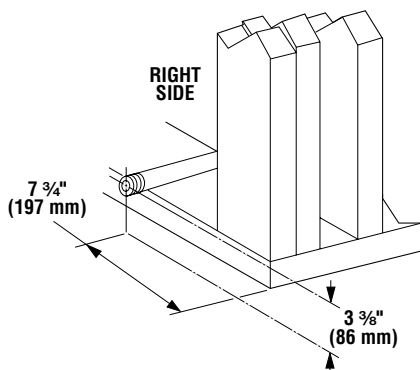

Figure 8
Step 2. Route gas line (**Figure 8**) using techniques and materials prescribed by local and/or national codes. It is recommended that a gas line of ½" or greater diameter be used to allow full gas volume to the fireplace. Undue pressure loss will occur if the pipe is too small. The appliance, as set up at the factory, is best suited for use with a gas line routed from the right side. The gas line may however be alternately routed from the left side.